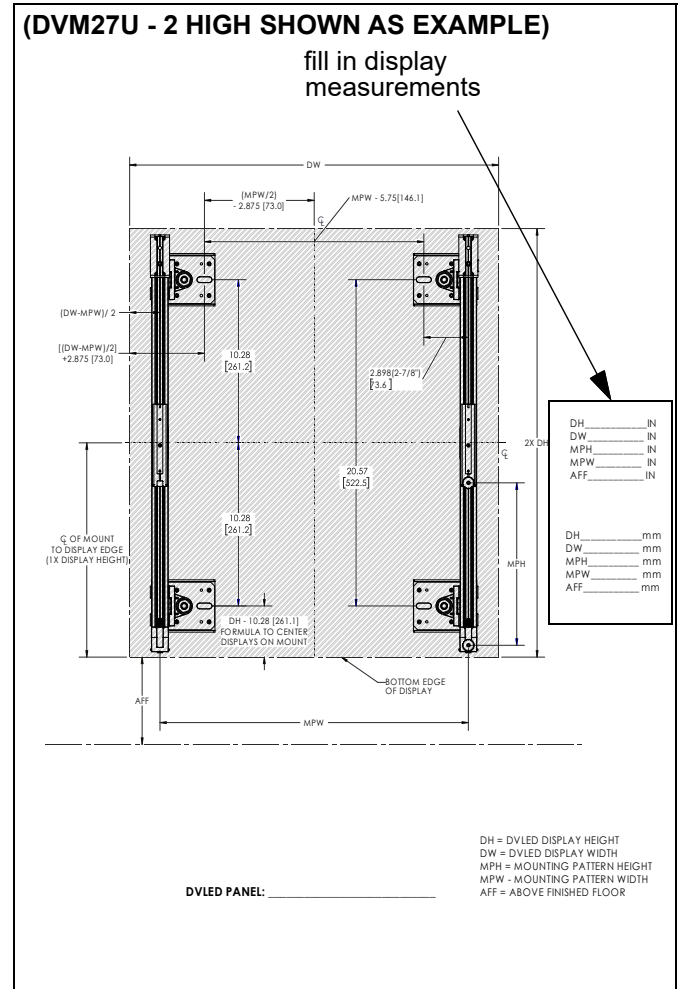

Figure 1
- **Measurement Worksheets** - In order to determine mounting hole locations, refer to measurement worksheets on pages 8-10. It may be helpful to print the appropriate sheet and fill in the measurements of the display in the blanks to have as reference for making the proper calculations. (See Figure 1)